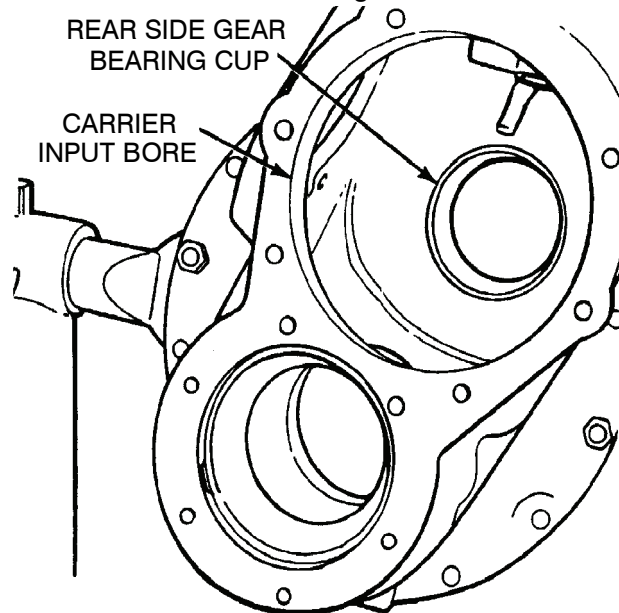

Figure 92.
- (10) If removed, install the bearing cup for the rear side gear in the differential carrier. Use a press and a sleeve to install the cup in the carrier. If a press is not available, use a sleeve or a long, brass drift and a hammer to install the cup. The cup is correctly installed when the bottom of the cup touches the bottom of the bore. Figure 92.